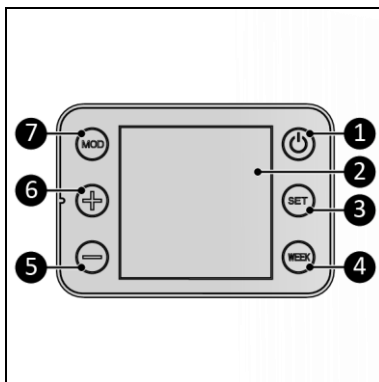

Figure 5
1. Press the ON/OFF button to turn on the device (Figure 5, pos. 1).
- When the ambient temperature decreases 8°C or more within 15 minutes, the device will go in standby mode and the Open window indicator starts flashing on the display. Open window detection mode is only available in room mode (R).
7. Press the MOD button to choose the desired function: room (R) or towel (T).